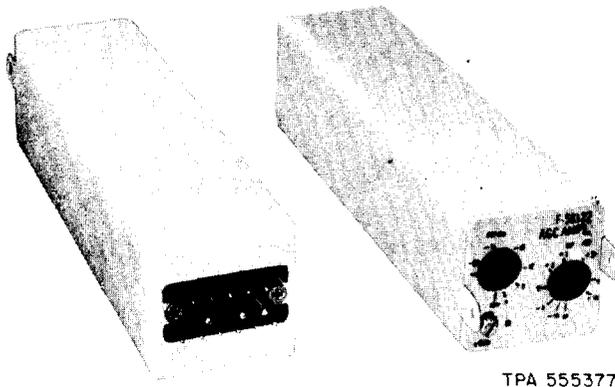

Fig. 1—F58122 Amplifier
1.02 The F58122 amplifier (Fig. 1) is identical in size and connections to the 227-type amplifier. This amplifier is intended to be used in 24V4 and 44V4 repeaters for the purpose of limiting the inband signal power applied to Bell System facilities.